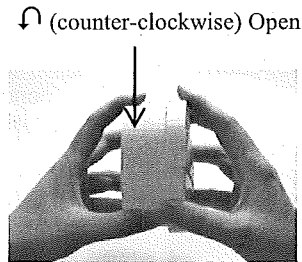

Fig. 2
2. Refer to Fig. 2, detach the bottom box of the SM-3SH detector.